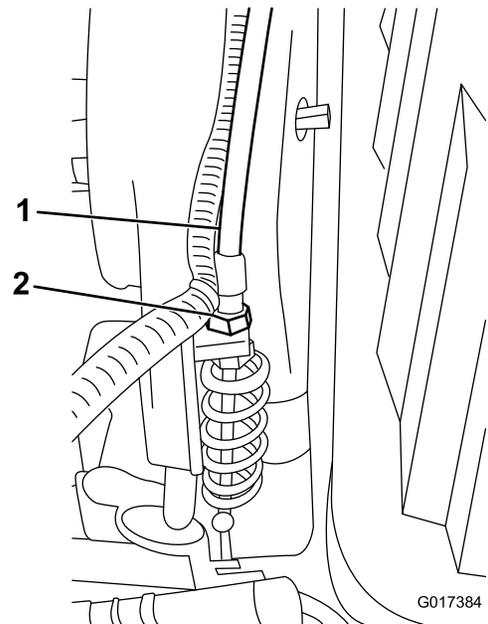

Figure 44
3. At the transmission bulkhead, adjust the reel-control cable (Figure 44), to attain a spring length of 70.6 to 72.4 mm (2.78 to 2.85 inches).